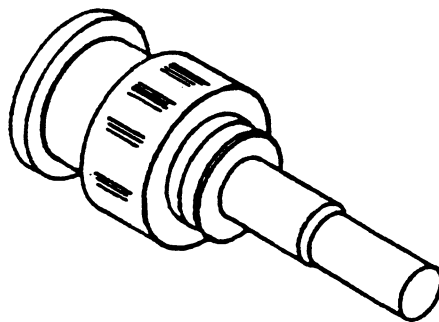

Figure 2-1. BNC Connector
- Use 93 ohm, RG-62A/U coaxial cable between the host bulkhead connector and the first cluster controller on the line, and between each subsequent cluster controller. The cable must be equipped with a standard BNC connector for attaching to the bulkhead connector, and another BNC connector for attaching to the cluster controller. Figure 2-1 illustrates the cable and attached BNC connector.